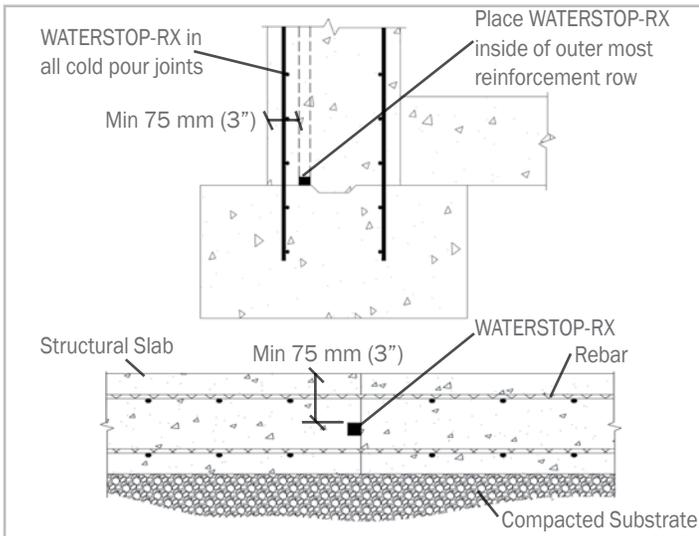
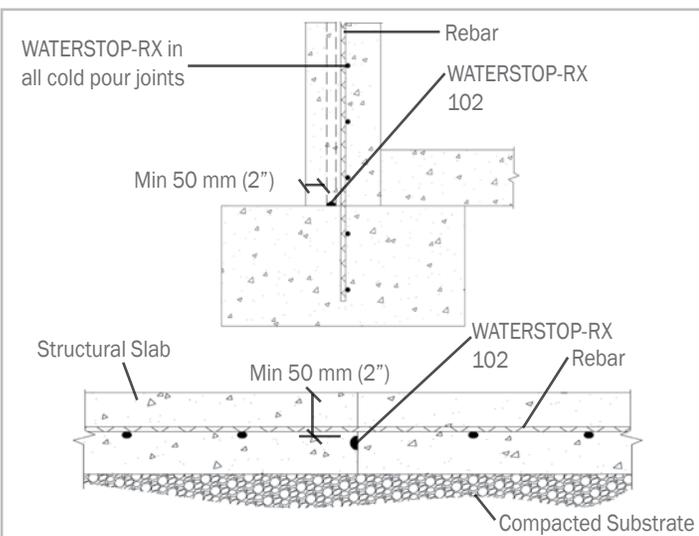

Figure 3.1 - Placement of WATERSTOP-RX 101 & 101T at typical construction joints with required 75 mm (3") concrete coverage.
Figure 3.2 - Placement of WATERSTOP-RX 102 at typical construction joints with required 50 mm (2") concrete coverage.
**WATERSTOP-RX is not designed, nor intended to function as an expansion joint sealant.** RX-101 and RX 101T require a 75 mm (3") minimum concrete coverage to the exterior concrete surface (see Figure 3.1). RX 102 requires a 50 mm (2") minimum concrete coverage to the exterior concrete surface (see Figure 3.2).